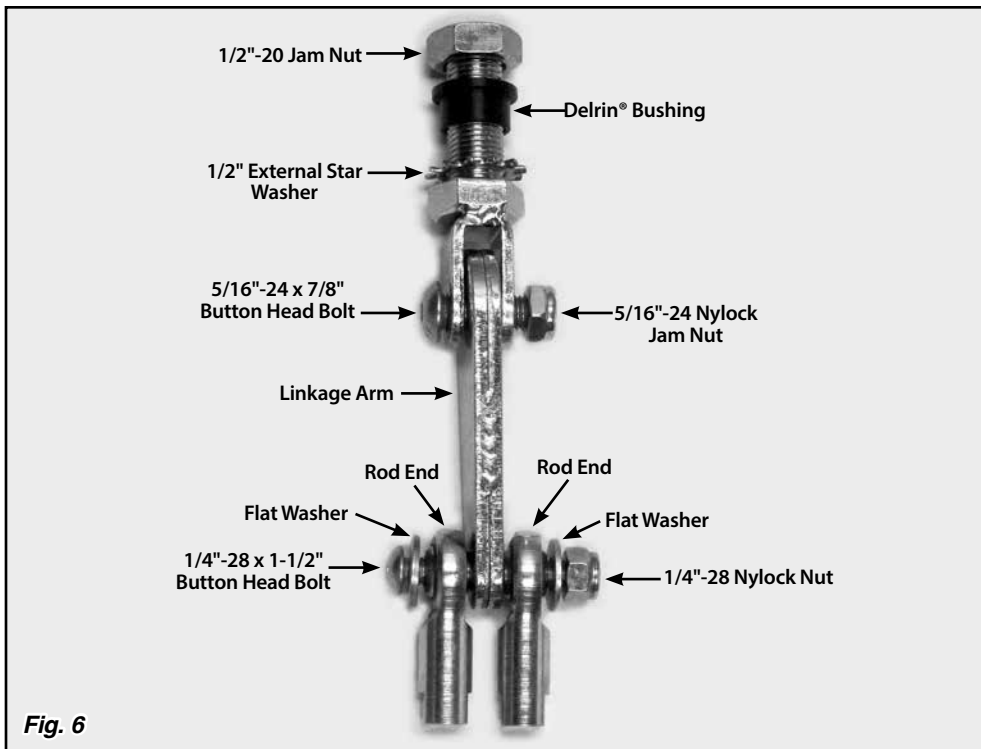

Fig. 6
Step 10: Verify that the linkage arm assembly is assembled correctly, with flat washers on the outside of each rod end and the heads of both button head bolts on the same side of the linkage arm as shown in **Fig. 6**. Remove the 1/2"-20 nut and Delrin® bushing from the linkage arm assembly. Make sure the star washer is in place on the linkage arm assembly, and insert the linkage arm assembly into the transmission boss from the bottom side.